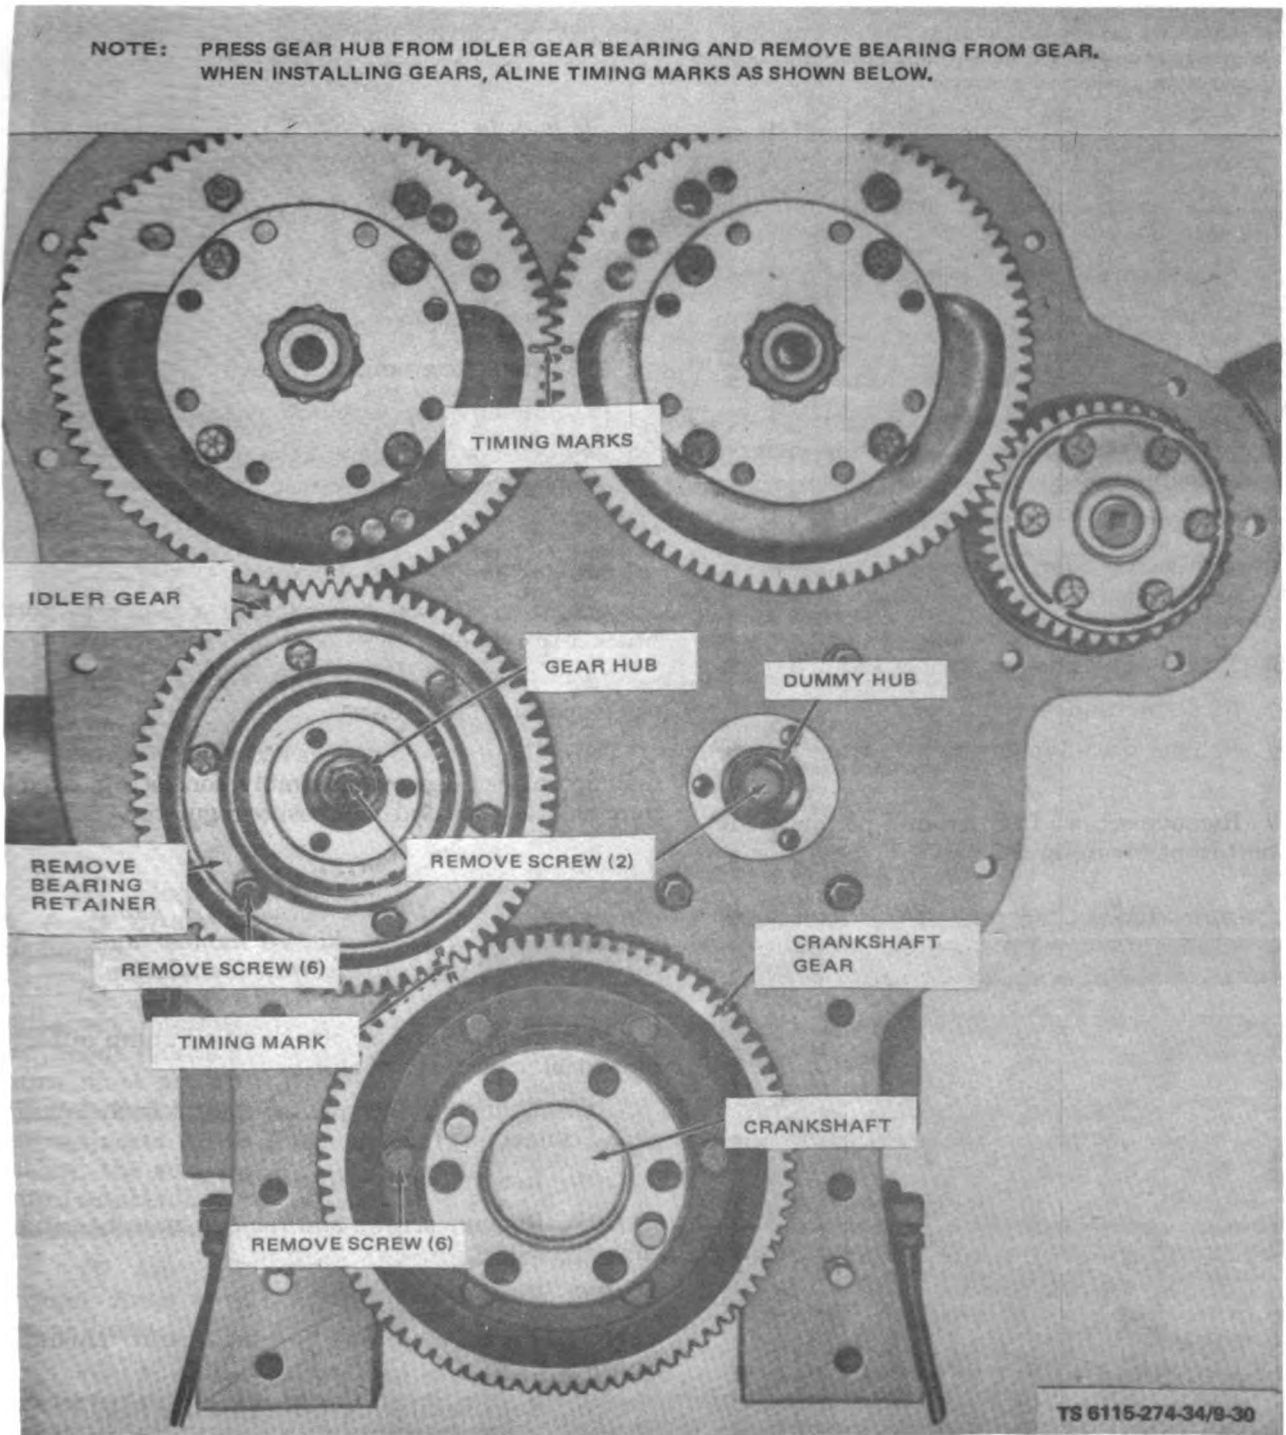

Figure 9-30. Crankshaft Gear, Idler Gear, and Dummy Hub, Removal and Installation
(55) Remove screws (2) and washers (3).
(56) Remove screws (4), washers (5), screws (6) and washers (7).
(57) Remove cover (8), seal (9) and gasket (10).
(58) Remove nuts (11), washers (12) and screws (13).
(59) Remove cover (14) and gasket (15).
(60) Remove screws (16), washers (17), cover (18) and gasket (19).
(61) Remove housing assembly (20) and gasket (21).
(62) Remove pipe plugs (22, 23, 24 and 25).
(63) Remove six screws on crankshaft gear (fig. 9-30). Remove crankshaft gear.
(64) Remove screws holding idler gear and remove gear. Remove bearing retainer.
(65) Remove screw holding dummy hub and remove hub.